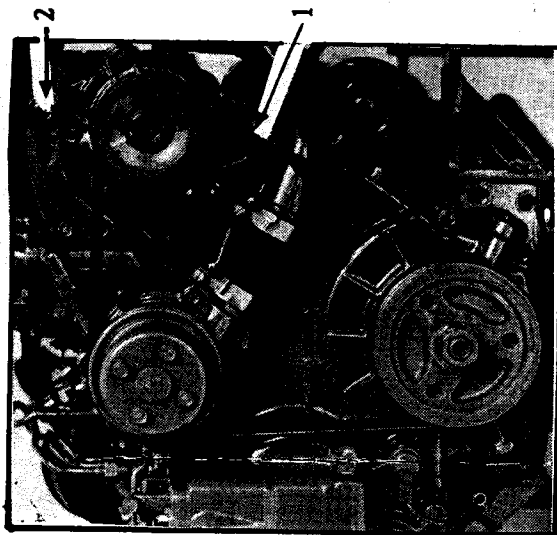

Figure 27
To tension the alternator belt the two alternator positioning screws, one located at the alternator lower side (1) and the other at the upper side (2) i.e. the tensioner, shall be loosened, the belt shall be tensioned levering up with the alternator until the suitable tension is achieved (Fig. 27).
Loosen the two screws (1) and (2) of Fig. 27.